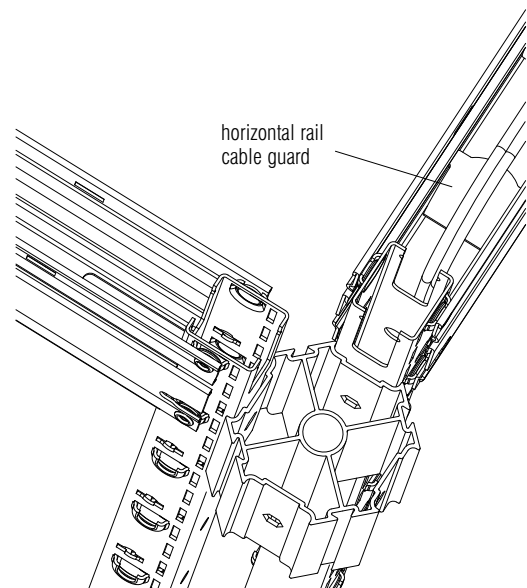

Figure 58
2. To run data cabling from the top cap to other heights in the panel, route wires down through the notch in the end of the top horizontal rail. The horizontal rail cable guard can be snapped in place in the notch in the end of the horizontal rail (**Figure 58**) to enforce a 1" minimum bend radius. **Detail N.**